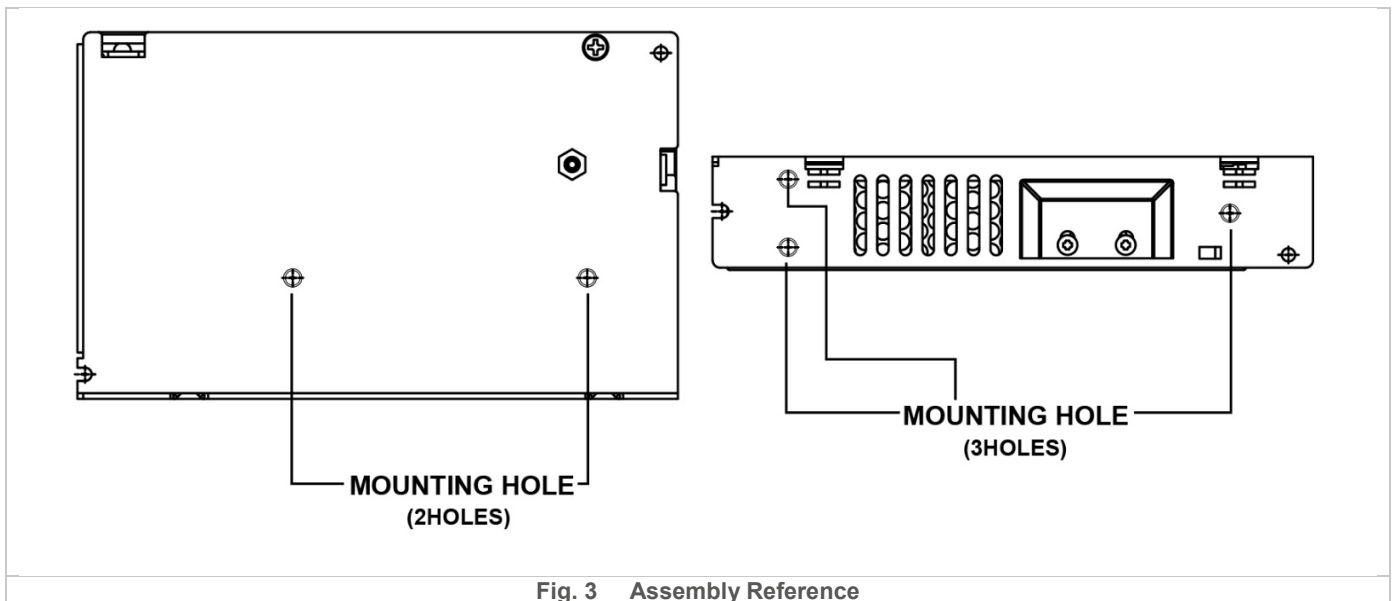

Fig. 3 Assembly Reference
- Use flexible cable (stranded or solid) of AWG No. 18-12. User should calculate and select the suitable wire specification (type/quantity/diameter) according to actual output current. The torque at the Connector shall not exceed 8 Kgf.cm. (6.94 lbf.in). The insulation stripping length should not exceed 0.275" or 7 mm. (Refer to Fig. 3).